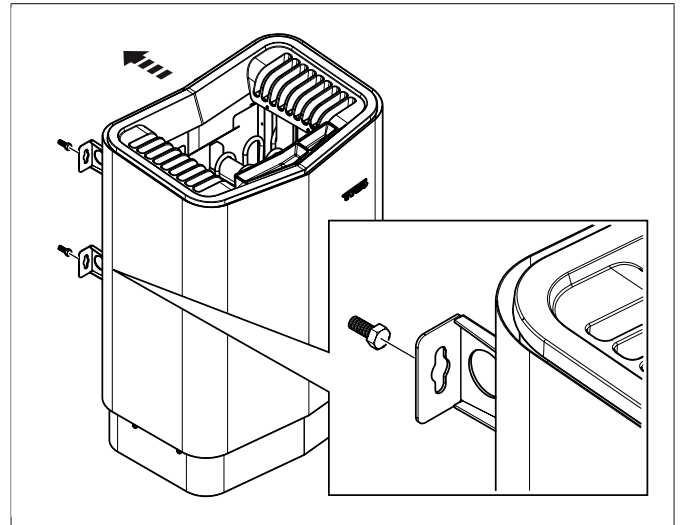

Figure 12: Hang the heater up.
11. Hang the heater on the screws see **Figure 12**, Page 5.